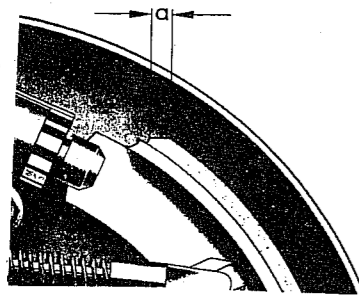

Fig. K.13. New linings must be chamfered at the ends as shown
4. The ends of the linings must be chamfered after fitting. (See fig. K 13).